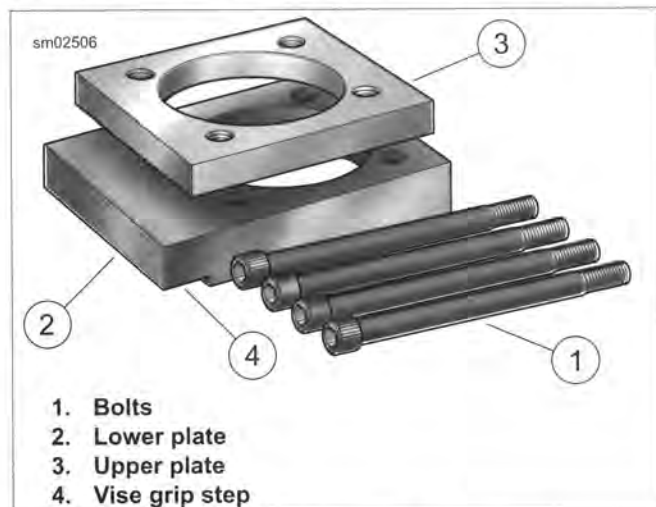

Figure 3-50. Cylinder Torque Plates
2. See Figure 3-50. Check the machined surfaces for flatness using a feeler gauge and CYLINDER TORQUE PLATES (Part No. HD-42324-A).
- a. Lay gasket side of the upper plate (3) flat against the head gasket surface of the cylinder.
- e. Lay the seal side of the lower plate (2) flat against the O-ring seal surface. Check flatness using a feeler gauge.